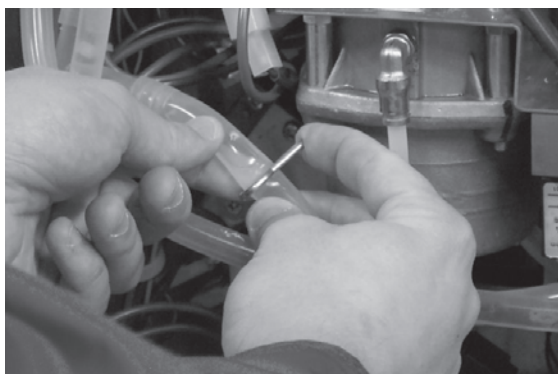

fig.64
- once the emptying is over, refit the hose clamp (fig.64)